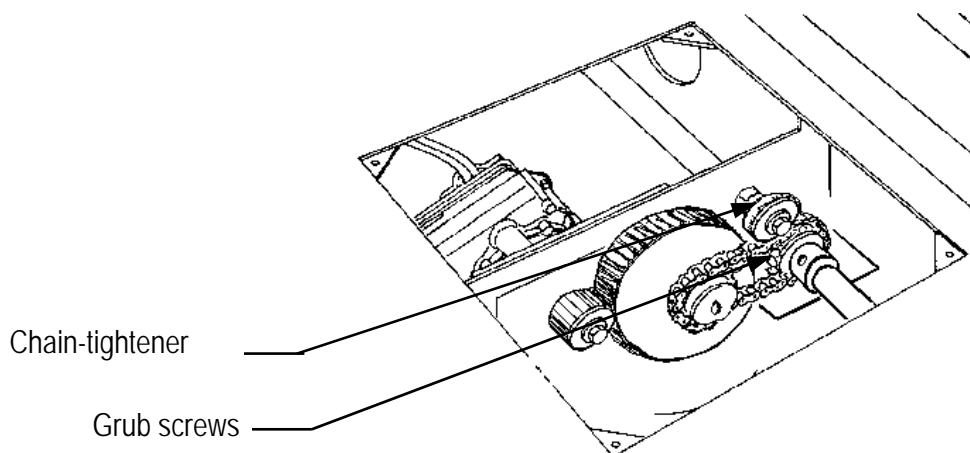

fig. 4.10
- Loosen the chain-tightener (fig.4.10) and remove the coupling link.